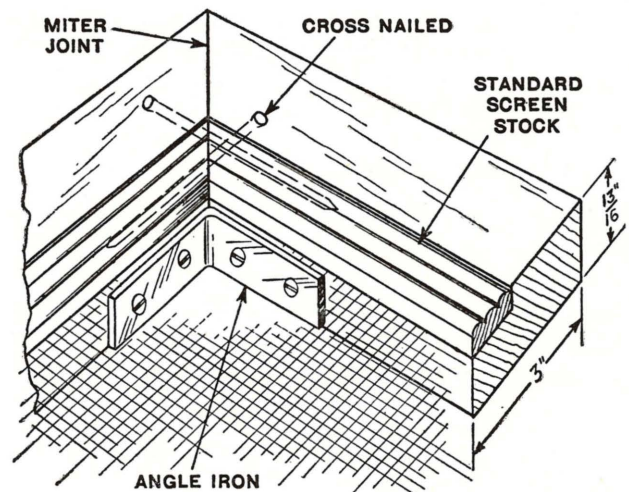

Fig. 495—Regular screen stock reinforced with an angle iron cross nailed makes a strong frame
5. Assemble the pieces. The type of construction illustrated in Fig. 495(c) is recommended.